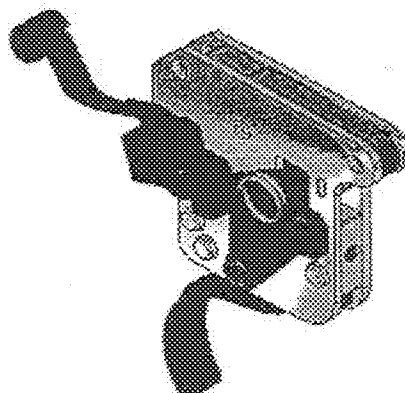

Figure 4
3. Slide the safety assembly or into the opening at the rear of the trigger assembly as shown in Figure 4. Bias the camming leg of the safety against the inside surface of the right hand side plate of the trigger housing. Insert a bolt stop pin thru the pivot hole to temporarily secure the safety to the housing.